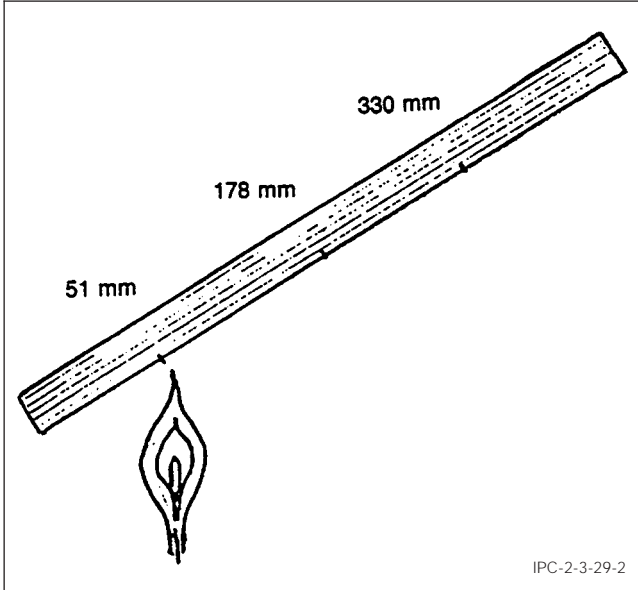

Figure 2 Flame Applied to Edge of Cable
5.1.2 Hold a single, full-width specimen of cable held at a 45° angle from the horizontal, with the edge down, and the flame applied to the lower edge of the cable (see Figure 2).